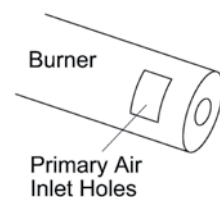

Figure 30 - Burner Primary Air Inlet
2. Inspect burner, pilot and primary air inlet holes on injector holder for dust and dirt (see Figure 30).